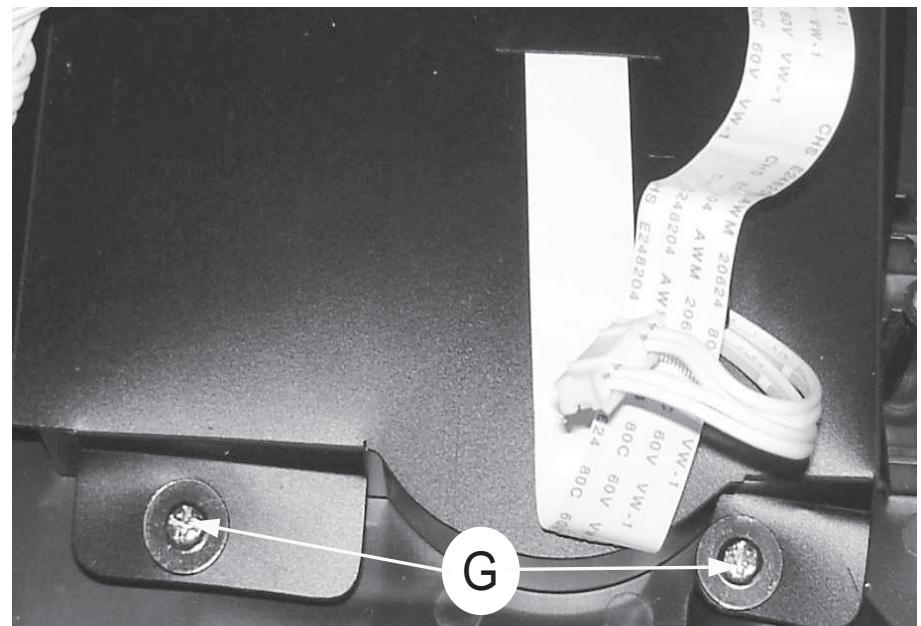
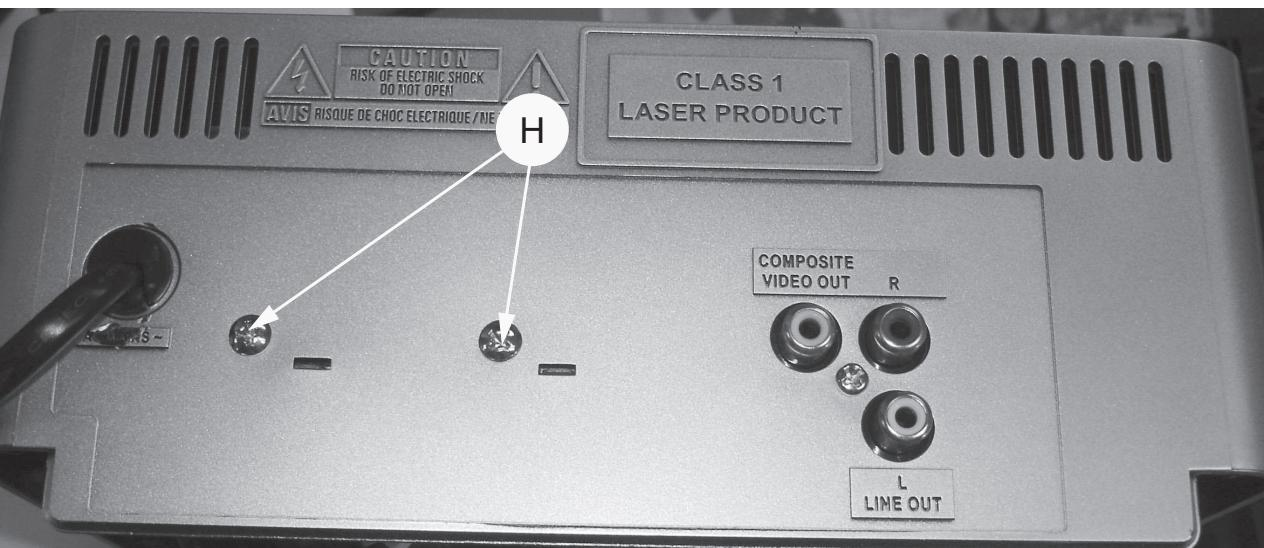

figure 7
figure 8
- 1) Loosen 2 screws "G" as shown in figure 7, and 2 screws "H" at back panel as shown in figure 8 to remove DVD loader bracket.